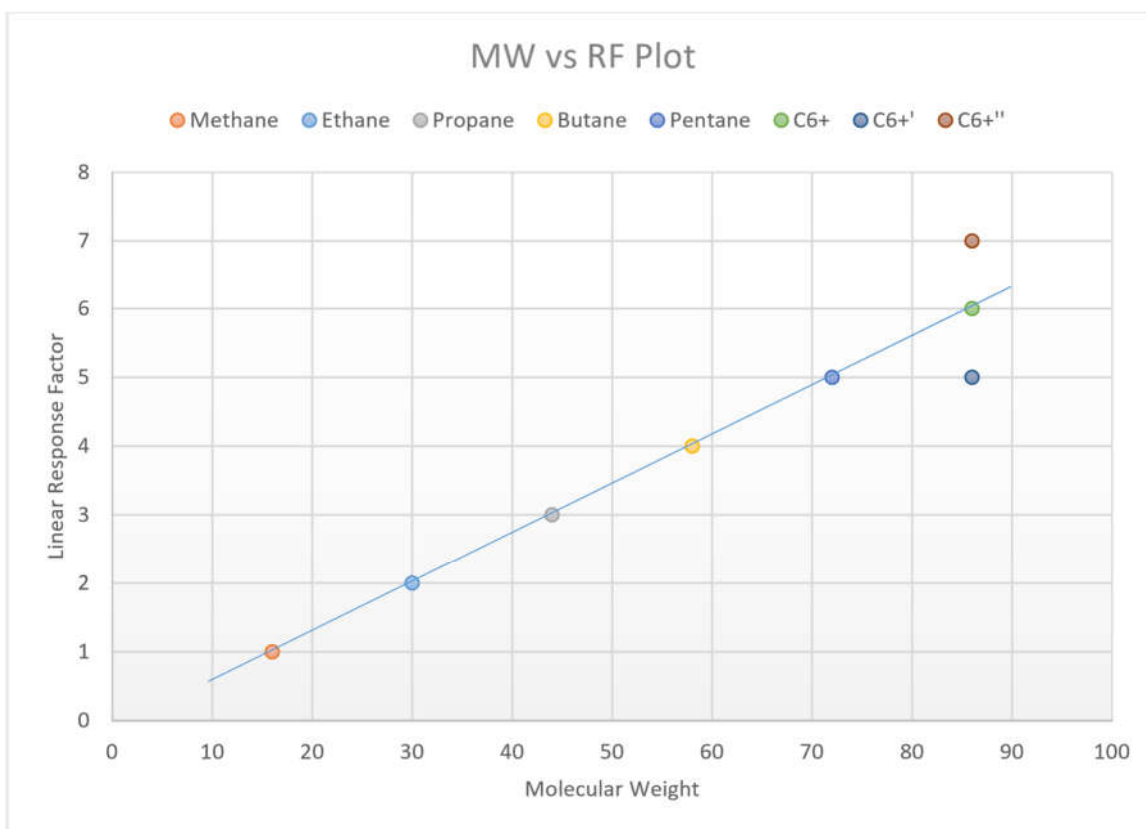

Figure 12 MW vs RF Plot
- Fidelity Plots – There is a linear relationship between the molecular weight and the thermal conductivity of the nalkanes being analyzed. By plotting the molecular weight versus the linear response factors, one can get an indication of proper operation and setup. Figure 12 is typical example of this plot.